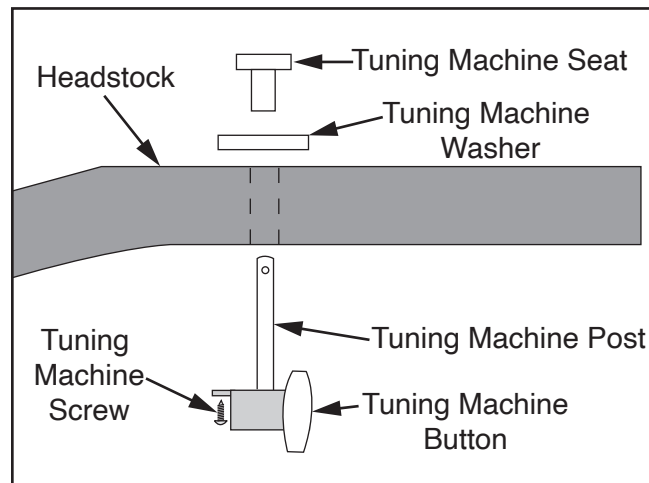

Figure 27. Installing tuning machines.
The supplied tuning machines are mirrored pairs: three for the left side of the headstock, three for the right. Each tuning machine consists of the parts shown in **Figure 27**.
Note: Install tuners in pairs, from side to side. Place a straight edge across tops of tuning machines to ensure they are parallel (see **Figure 27**).
2. From back of headstock, slide tuning machine posts through headstock and seat (see **Figure 27**).